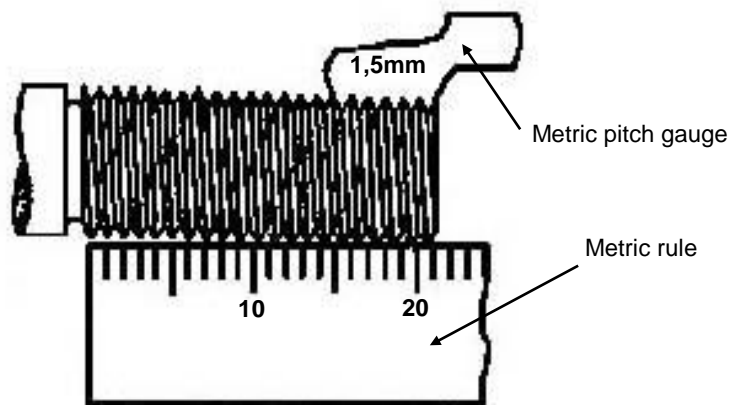

FIG 3.
- Measure the pitch of the thread with a metric pitch gauge or metric rule. See Fig 3.